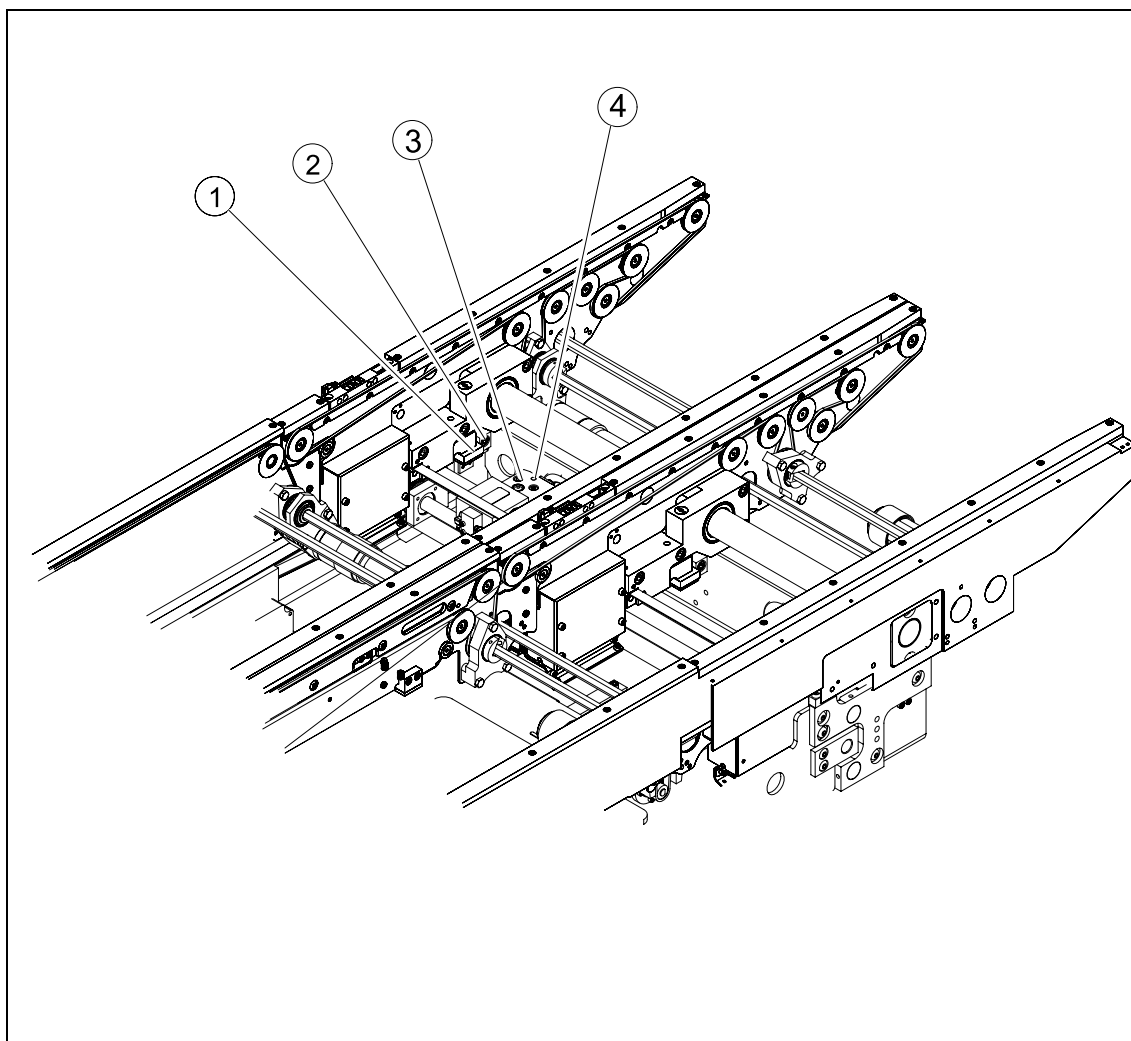

Fig. 6.13.28 Replacing the actuator for the width adjustment system
Move the adjustment unit to under the conveyor side (see also Fig. 6.13.28).
- Undo and remove the screw fastening the actuator. (see also Fig. 6.13.28).